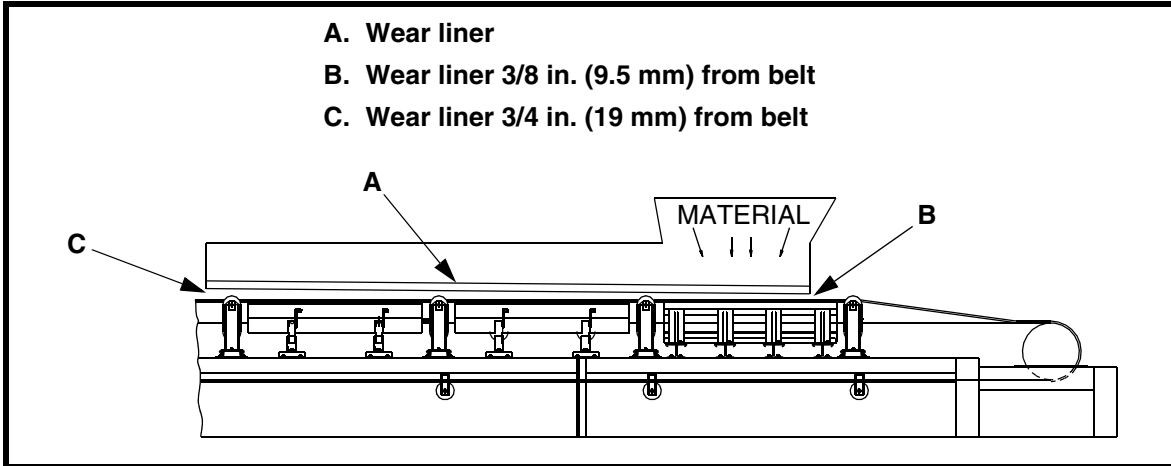

Figure 1. Locating Chute Wall and Wear Liner
1. Make sure wear liner (A, Figure 1) is 3/8 in. (9.5 mm) from belt at transfer point entry (B), and gradually increases to 3/4 in. (19.1 mm) at transfer point exit (C).
2. Make sure wear liner (A, Figure 1) is 3/8 in. (9.5 mm) from belt at transfer point entry (B), and gradually increases to 3/4 in. (19.1 mm) at transfer point exit (C).